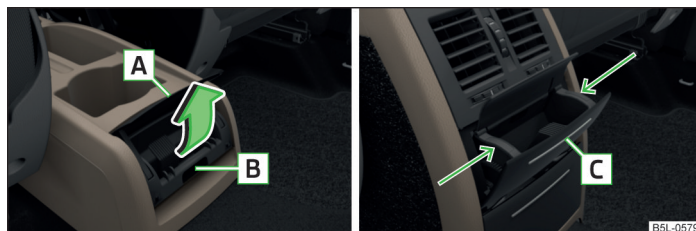

Fig. 63 Rear ashtray: low center console / high center console
- Grasp the ashtray cover at the lower edge  and fold it open in the direction of arrow » Fig. 63.
- Grasp the ashtray at the handle  » Fig. 63 and remove from above.
- Press on the top part of the ashtray cover in area **C** » Fig. 63.
- Grasp the ashtray insert in the area of the arrows » Fig. 63 and remove.